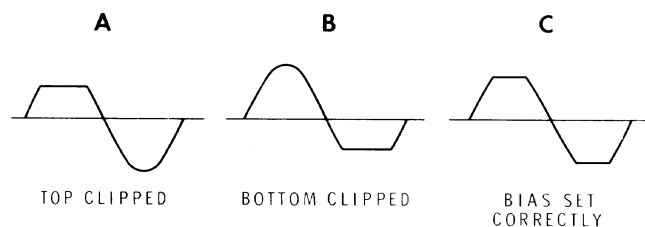

Figure 2
- (✓) Rotate the FEEDBACK control fully clockwise. Note that the positive or negative half of the waveform is clipped as shown in part A or B of Figure 2.
- (✓) Adjust the BIAS control so both halves of the waveform are clipped equally, as shown in Part C of Figure 2.